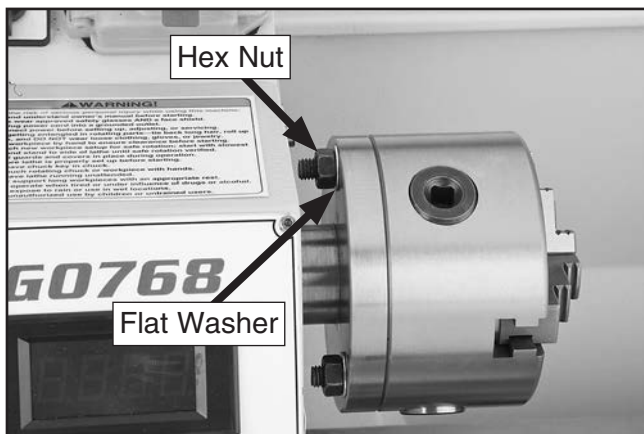

Figure 26. Chuck secured against backplate.
- Use (1) 8mm flat washer and (1) M8-1.25 hex nut on each chuck screw to secure chuck (see **Figure 26**). Tighten hex nuts evenly a small amount at a time and in multiple steps.